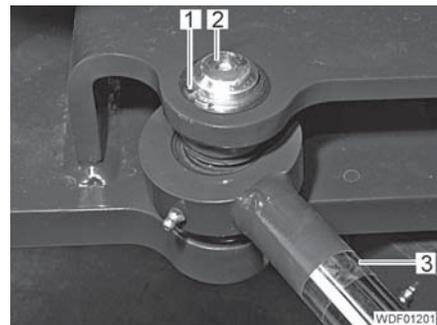

Fig. 136 Steering cylinder, rod end
- Drive in the pin (Fig. 136,2) with the washer from above.
- Place the washer into position at the bottom and secure it with the locking ring (Fig. 136,1).